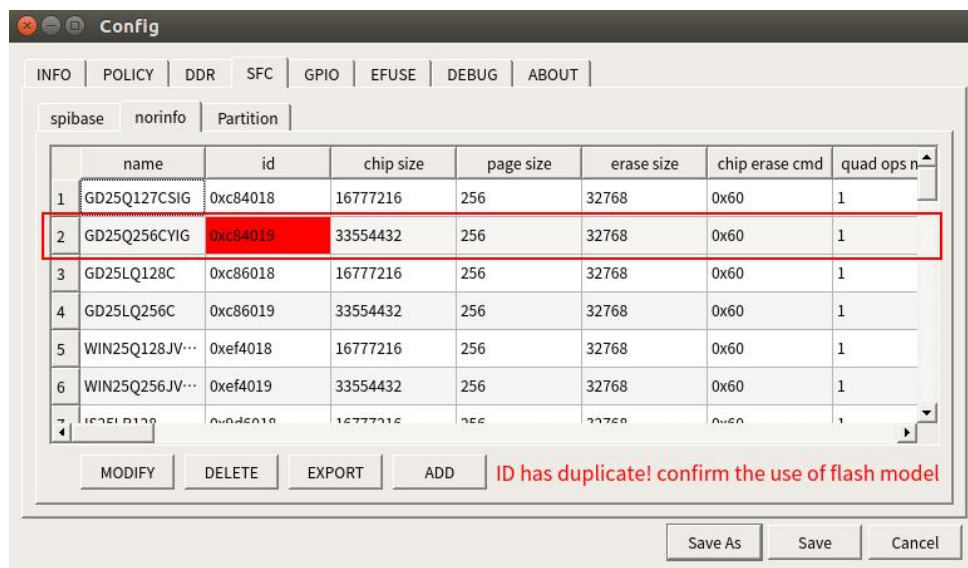

Figure 4-7
3、For SFC configuration, since there are many types of flash supported by the programming tool, it is necessary to solve the problem of ID conflict according to the model of the onboard nor flash before programming. Click norinfo, find the ID of the corresponding onboard nor flash according to the name, and browse whether there is a conflict marked in red. If there is a conflict, choose to delete the others. Refer to Figure 4-7 for the configuration interface.